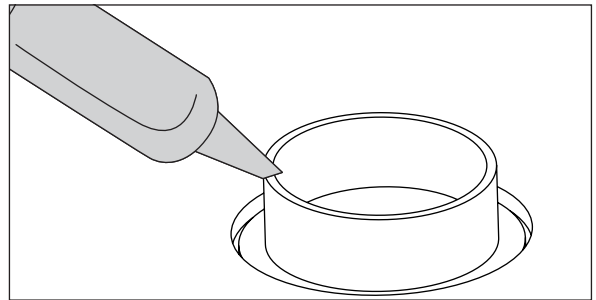

FIG 2 Apply construction adhesive to all feet.
- 3** Apply construction adhesive to all feet and install base into alcove (**Fig 2**).